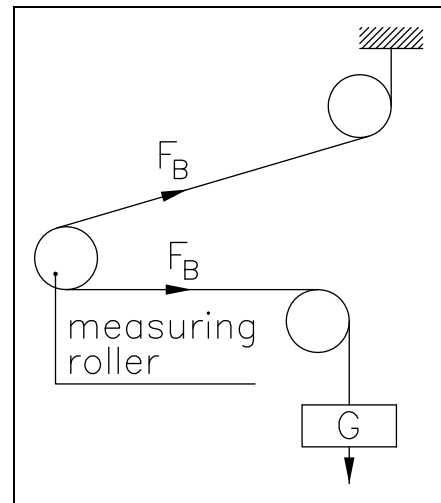

Fig. 8: Calibrating the measuring amplifier C431011e
8. Load material or rope with a defined weight (fig. 8).